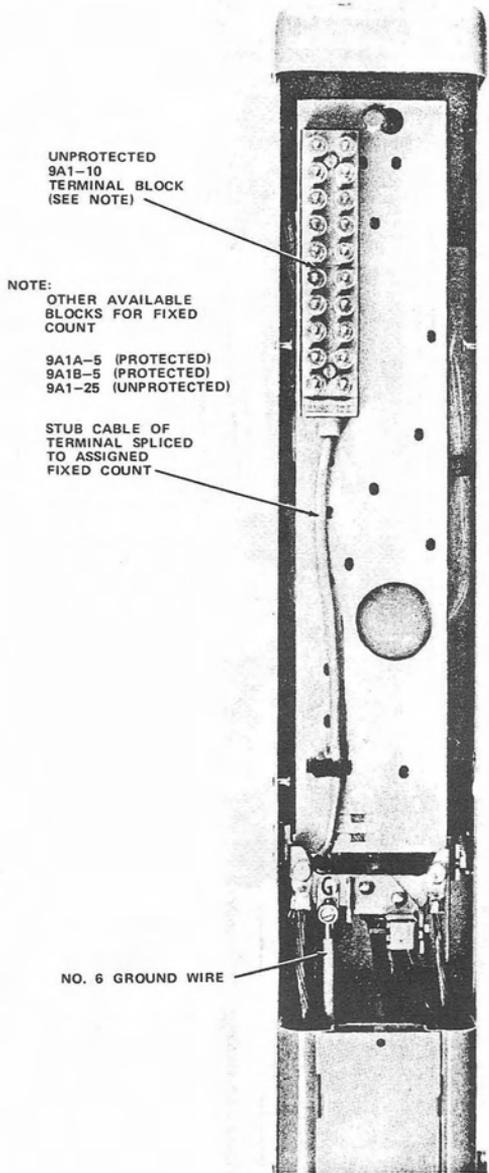

Fig. 19—Fixed Count PC6/48 Cable Closure With Unprotected Terminal Block
4.10 Run a No. 6 ground wire from ground lug on bonding bracket to power neutral ground (Fig. 19).
6.03 Wrap the splice with the plastic shield, then secure backboard in upright position (Fig. 19, 20, and 21).